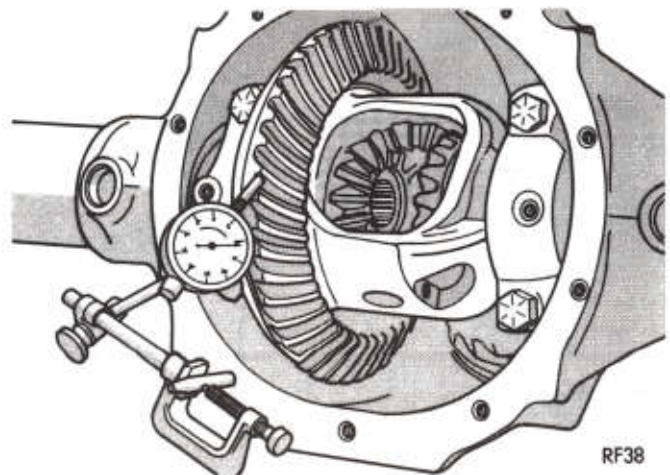

Fig. 31—Dial Indicator Installed to Check Backlash
(2) Install dial indicator Tool C-3339 (Fig. 31) and position contact point against drive side of gear tooth. To find point of minimum backlash, check backlash at 4 positions at approximately 90 degree intervals around drive gear. Rotate gear to position of least backlash. Mark the index so that all backlash readings will be taken with the same teeth in mesh.
(3) Loosen right adjuster and tighten left adjuster until the backlash is .003 to .004 inch (.08 to .10 mm) with each adjuster tightened to 10 ft. lbs. (14 N·m). Again seat bearings per note. Tighten differential bearing cap bolts to 70 ft. lbs. (95 N·m) on the 8-3/8 inch axles, 100 ft. lbs. (136 N·m) on 9-1/4 inch axles. Using Tool C-4164 tighten right adjuster to 75 ft. lbs. (102 N·m). Again seat bearings per note. Continue to tighten right adjuster and seat rollers until torque remains constant at 75 ft. lbs. (102 N·m). Measure backlash. If backlash does not measure between .006 to .008 inch (.15 to .20 mm), increase torque on right adjuster and seat bearings per note until correct backlash is obtained. Tighten left adjuster to 75 ft. lbs. (102 N·m). Seat bearings per note until torque remains constant. **If all previous steps have been properly performed, initial reading on left adjuster will be approximately 75 ft. lbs. (102 N·m). If it is**